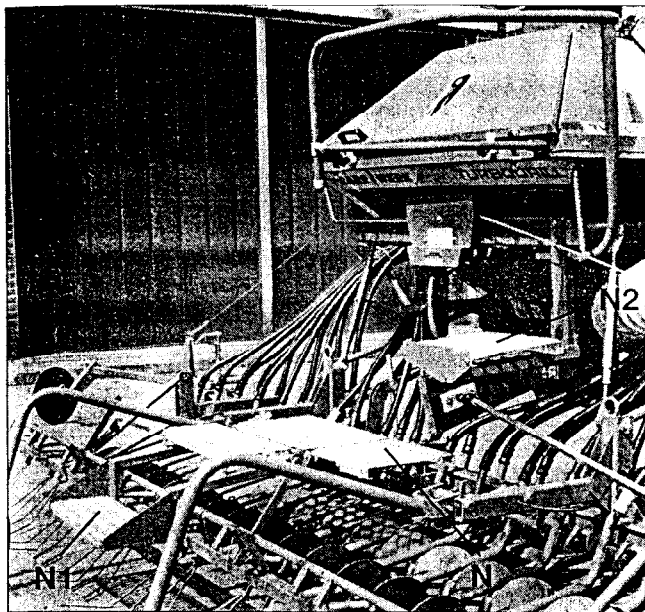

Fig. 31
#### **Filling of hopper** (Fig. 31, 32 & 33)
- Top filling lid for auger or big-bags (Fig. 31)
#### **Filling platforms** (Fig. 31 & 34)